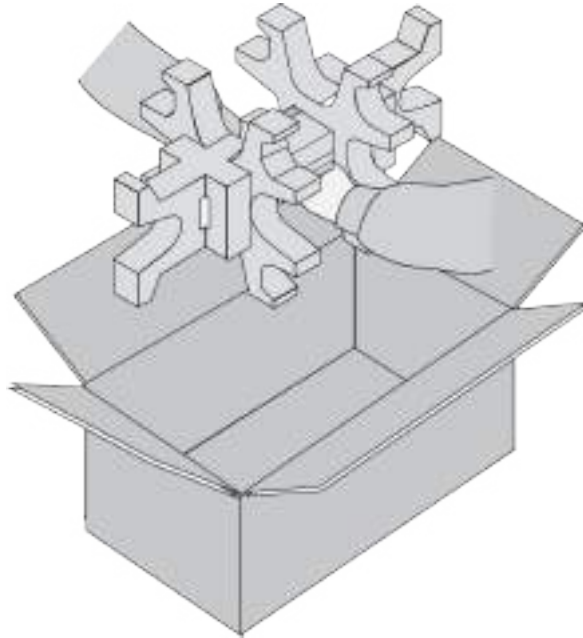

Figure 35. Removing the Power Supply from the Shipping Box
3. Lift the AC power supply from the shipping box and place it on a level, secure table. Refer to Figure 35 on page 81.